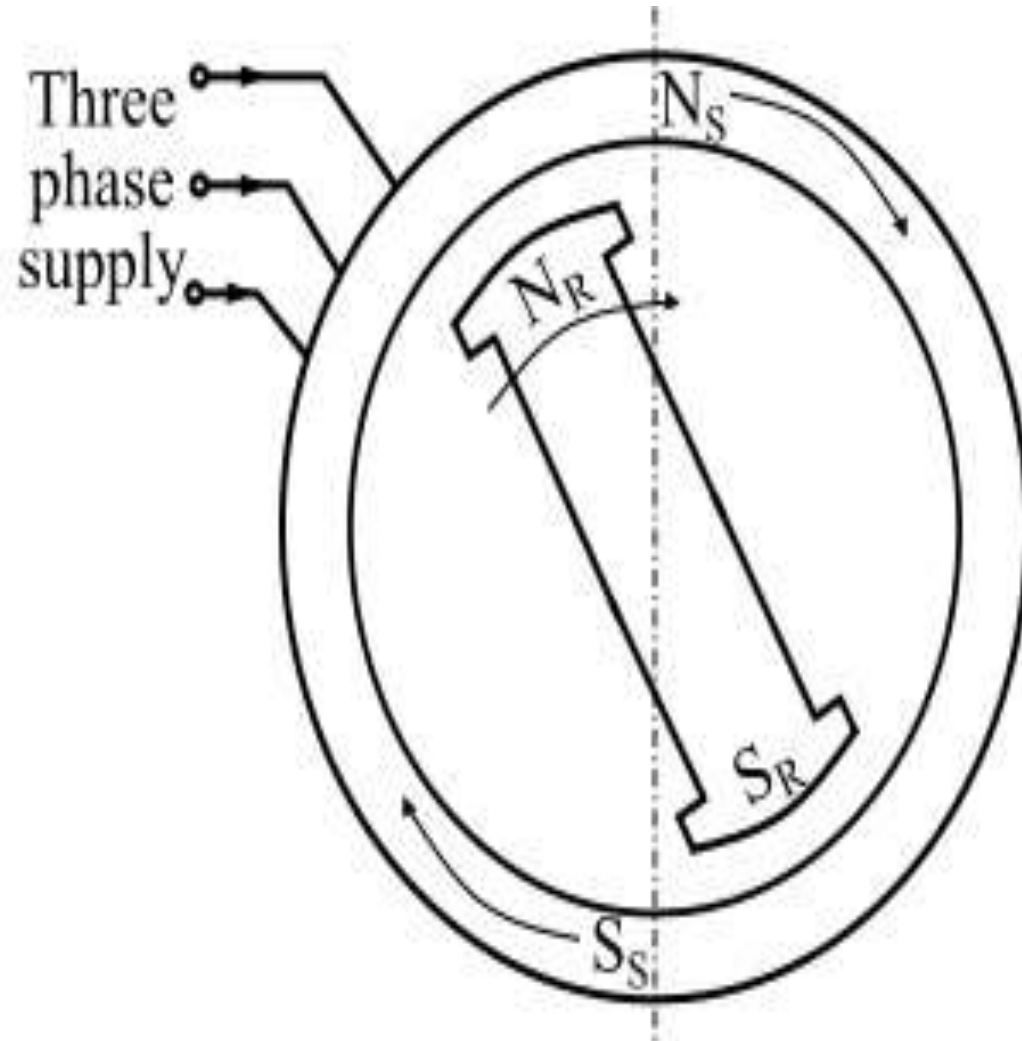

Figure-2
- Consider a 3-phase, 2-pole synchronous motor having two rotor poles NR and SR as shown in Figure-2.
- Now, suppose at any instant, the stator poles are at positions as shown in Figure-2. From Figure-2, it is clear that poles NS and NR repel each other and also at SS and SR.